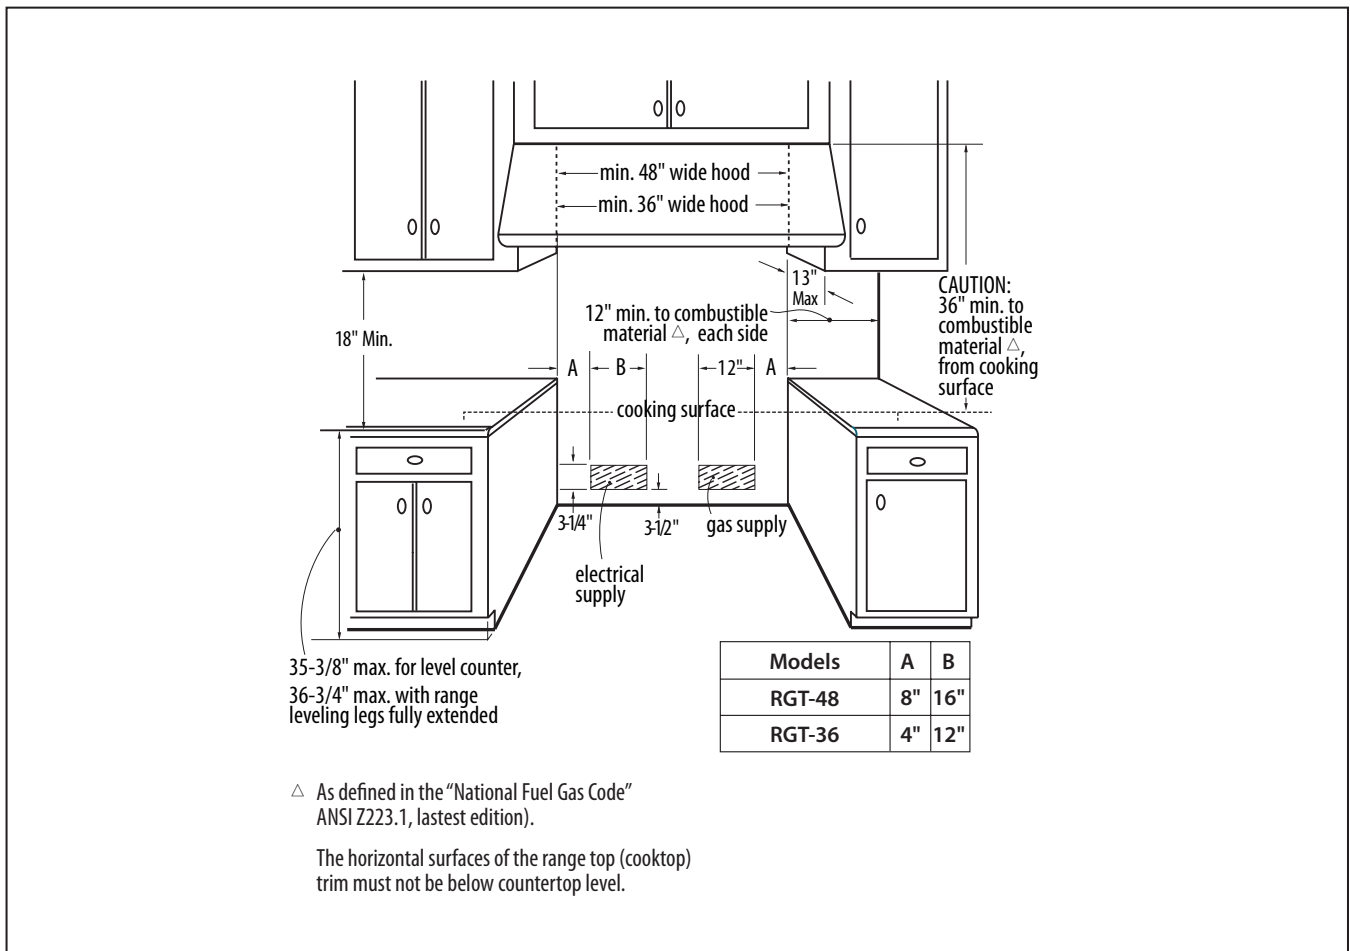
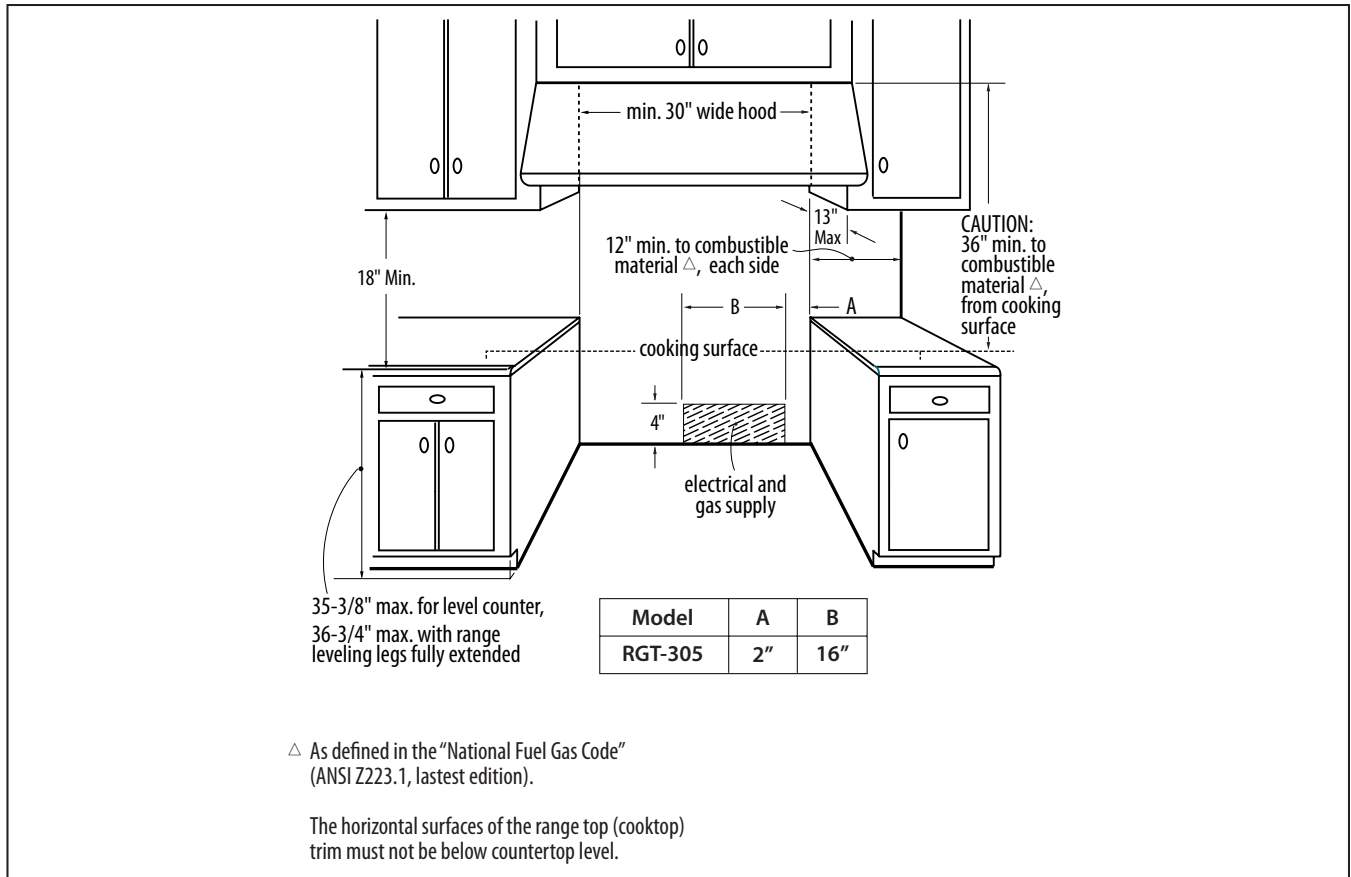

Fig. 10 RGT 48" & 36" Models Only
Fig. 11 RGT-305 Model Only
1. The range is a free standing unit. If the unit is to be placed adjacent to cabinets, the clearances shown in fig. 10 (RGT-36 & 48) & fig. 11 (RGT-305) are required. The same clearances apply to island installations.
3. The gas and electrical supply should be within the zones shown figures 10 & 11.